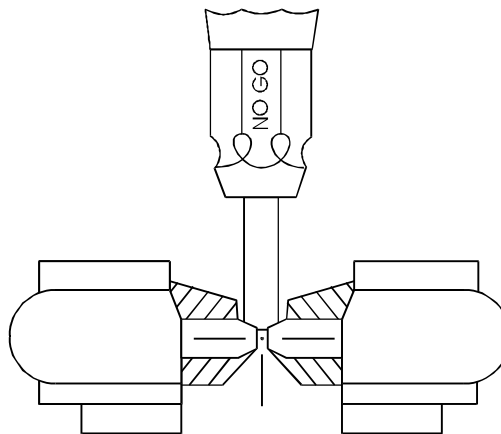

Figure 1-24
5. Invert the inspection gauge while continuing to hold the handles in the fully closed position. Insert the 'No Go' gauge (Red) into the indenter opening, as shown in Figure 1-24. The gauge should not pass between the indenters. If the 'No Go' gauge does pass through the indenters, have the tool repaired.